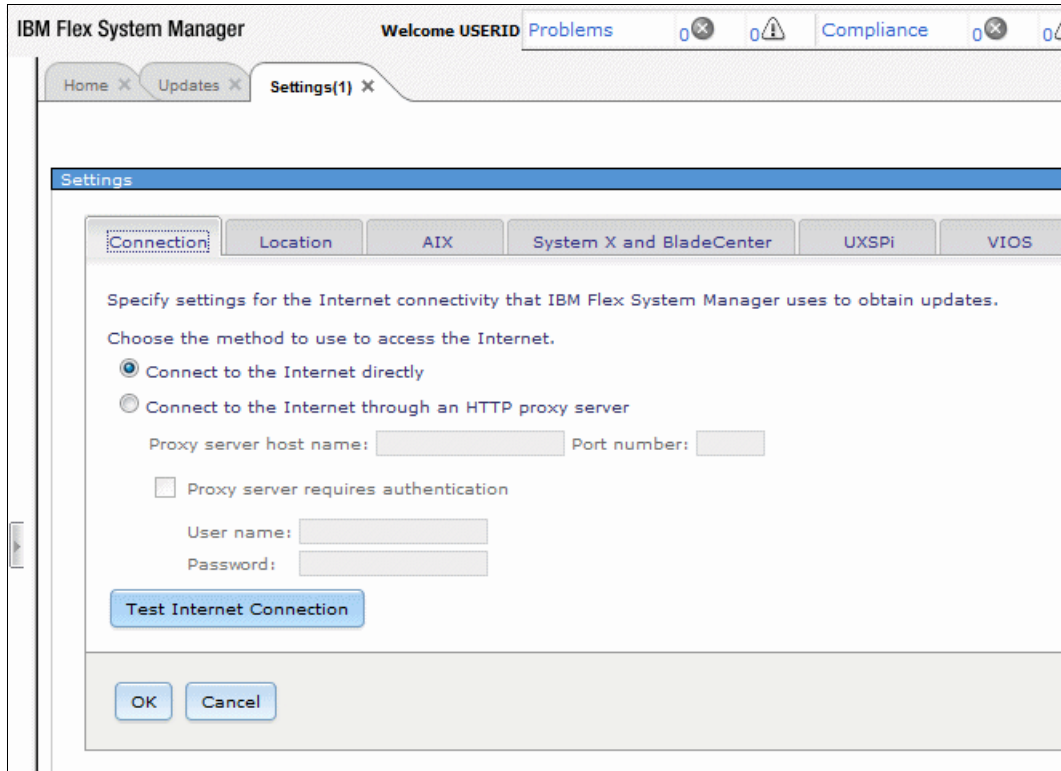

Figure 6-82 FSM Update Manager Internet connection settings
3. In the Common task box, click the link for **Configure settings** to open the window that is shown in Figure 6-82.